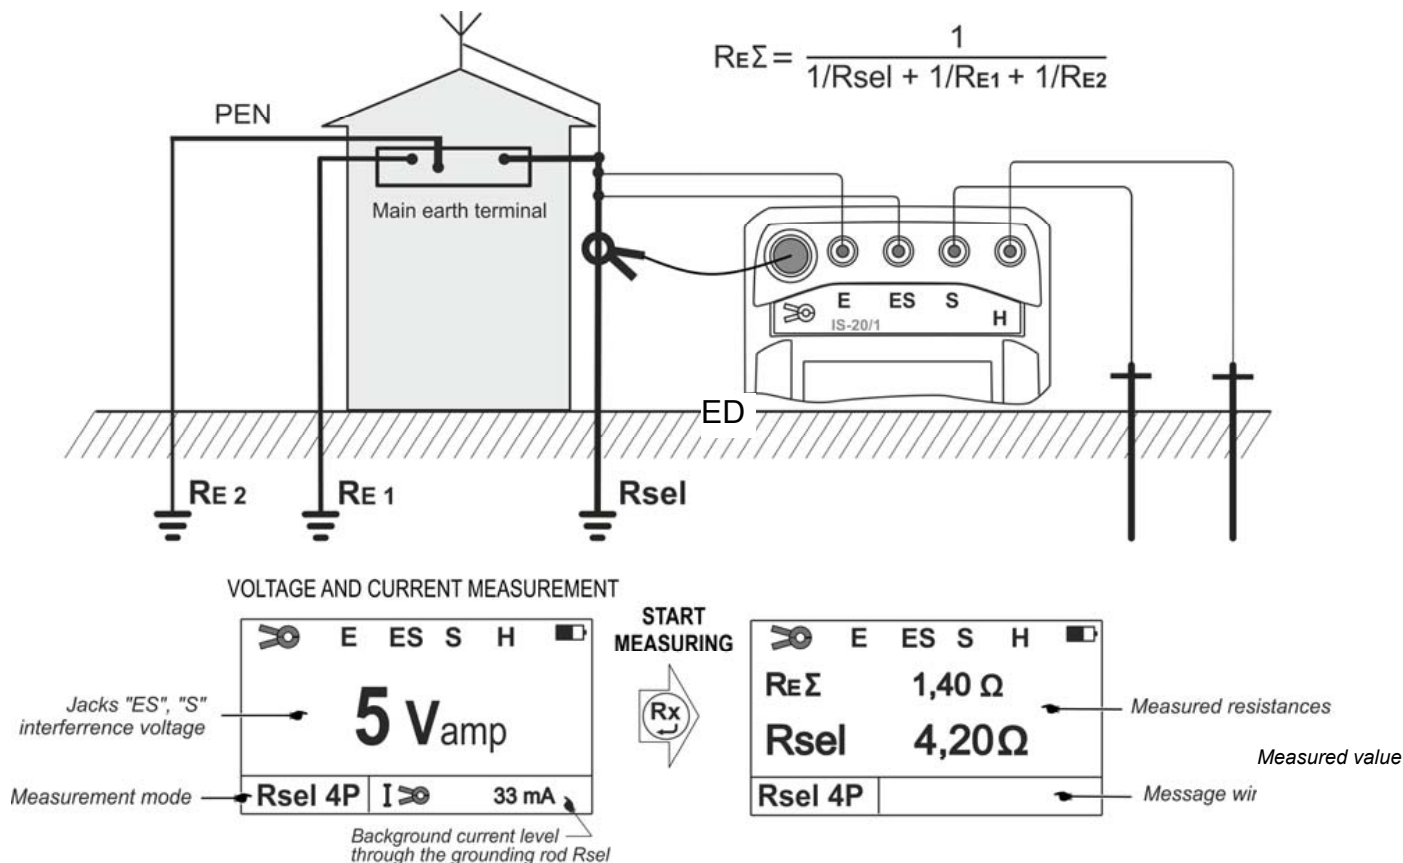

Figure 2.11 – Connecting scheme and display view during single earth lead resistance measurement according to four-wire method
*Note. The clamp verification according to item 2.3.10 is recommended before each measurement.*
Connecting the instrument to the earthing system and arranging auxiliary electrodes are similar for four- or three-pole systems, as is described in items 2.3.6 and 2.3.7. Embrace the earth conductor with a clamp meter below the place of connection of potential pin ES (Figure 2.11).